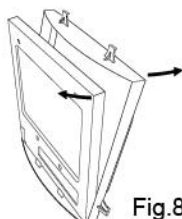

Fig.8
• **FITTING NEW CARTRIDGE** (See fig.8).